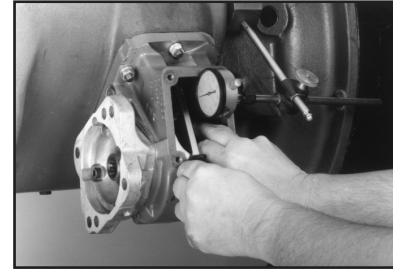

Figure 20
2. Mount the dial indicator so that it registers movement of the input gear (driven gear) of the PTO (**Fig. 20**).